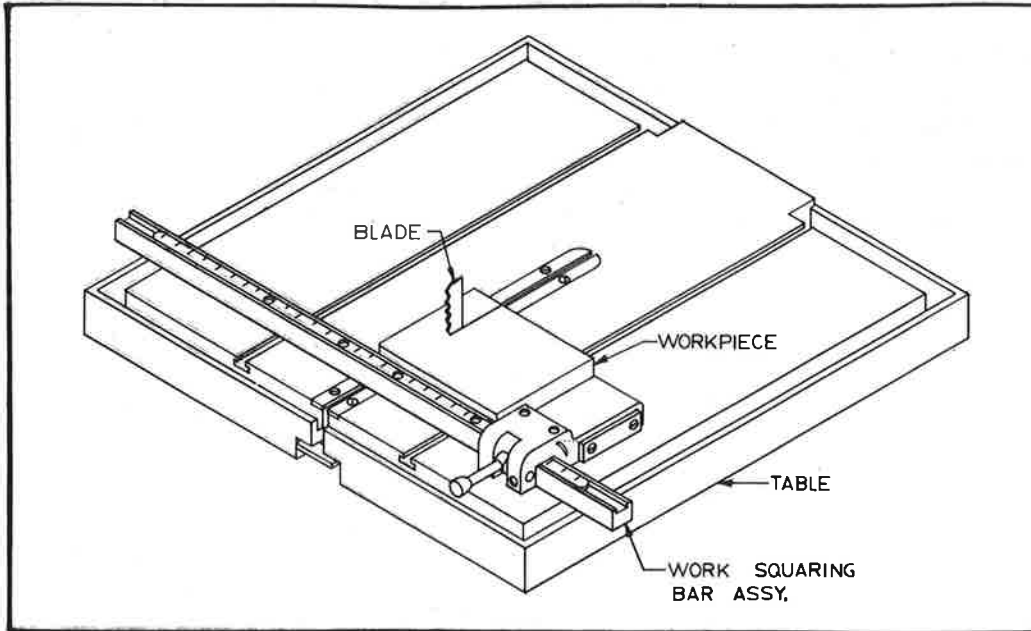

FIGURE 4
11. Mount the part piece and lock it in place by the method to be used for the operation (Fig.4).